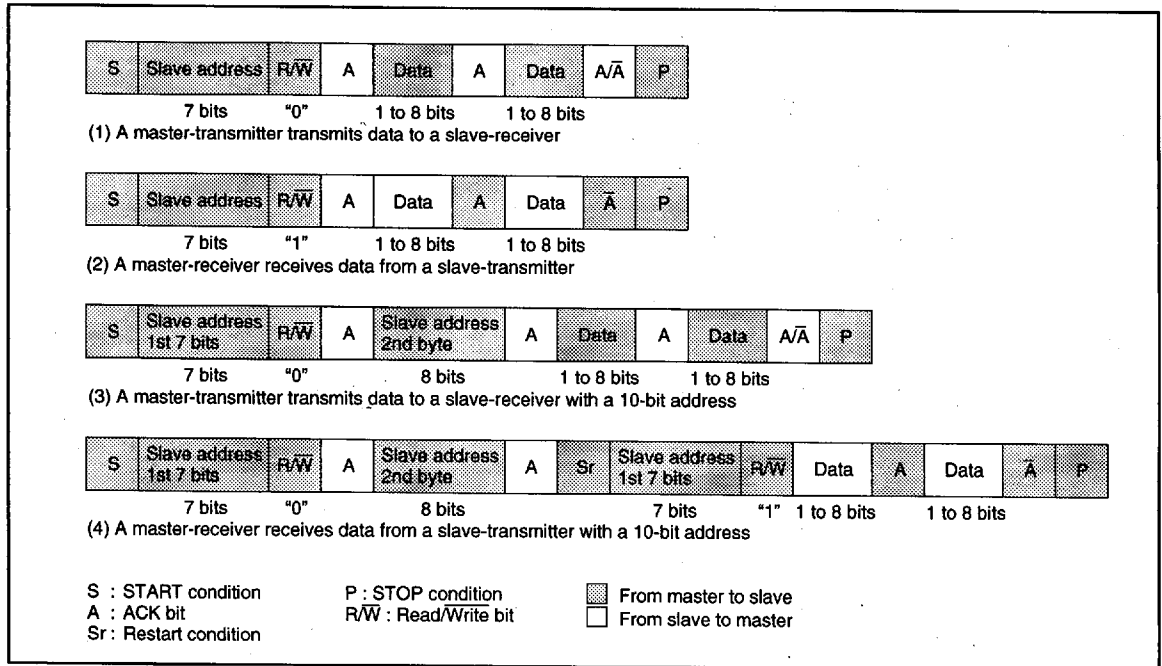

Fig. 44. Address data communication format
To meet the 7-bit addressing format, set the 10BIT SAD bit of the I2C control register (address 00F916) to "0." The first 7-bit address data transmitted from the master is compared with the high-order 7-bit slave address stored in the I2C address register (address 00F716). At the time of this comparison, address comparison of the RBW bit of the I2C address register (address 00F716) is not made. For the data transmission format when the 7-bit addressing format is selected, refer to Figure 44, (1) and (2).
When the first-byte address data matches the slave address, the AAS bit of the I2C status register (address 00F816) is set to "1." After the second-byte address data is stored into the I2C data shift register (address 00F616), make an address comparison between the second-byte data and the slave address by software. When the address data of the 2 bytes matches the slave address, set the RBW bit of the I2C address register (address 00F716) to "1" by software. This processing can match the 7-bit slave address and R/W data, which are received after a RESTART condition is detected, with the value of the I2C address register (address 00F716). For the data transmission format when the 10-bit addressing format is selected, refer to Figure 44, (3) and (4).
- ⑥ When all transmitted addresses are "0" (general call)
- When the transmitted addresses match the address set in ①
- ⑦ Set dummy data in the I2C data shift register (address 00F616).
- ⑧ When receiving control data of more than 1 byte, repeat step ⑦.
- ⑨ When a STOP condition is detected, the communication ends.